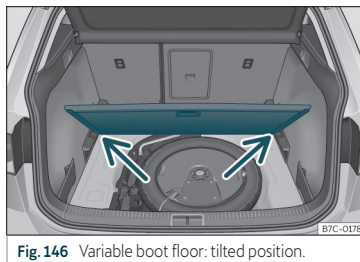

Fig. 146 Variable boot floor: tilted position.
- Rest the floor on its housings >>> **Fig. 146** (arrows).